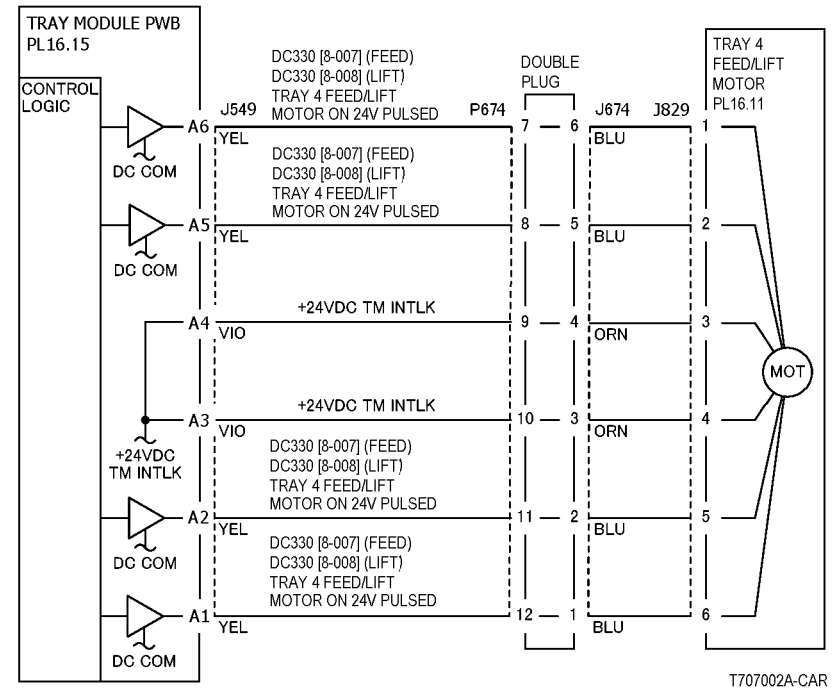
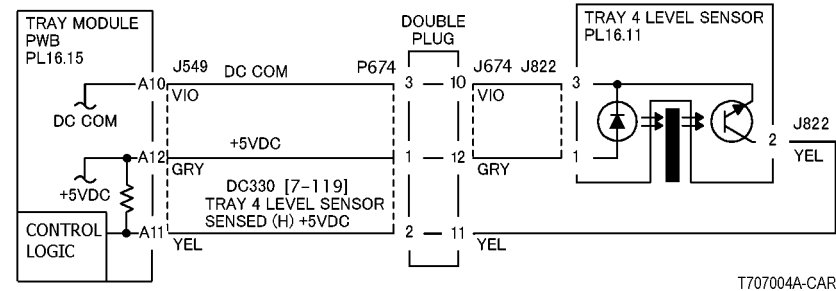

Figure 1 Tray 4 Lift/Feed Motor
Figure 2 Tray 4 Level Sensor
- Ensure that the connectors shown in the circuit diagrams (Figure 1, Figure 2) are securely connected and that the wires are not damaged.